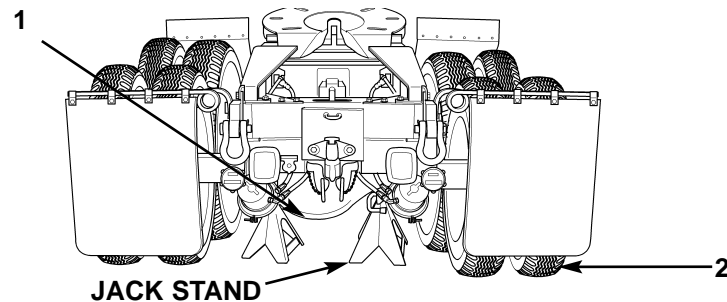

Figure 2. Jacking Rear-Rear Axle.
3. Position suitable floor jack under center of axle housing on rear-rear axle (figure 2, item 1), and raise rear-rear axle (figure 2, item 1) until tires (figure 2, item 2) are approximately 1 in. (25.4 mm) off ground.
4. Position jack stand under axle housing at each side of rear-rear axle (figure 2, item 1) and lower rear-rear axle (figure 2, item 1) making sure tires are still off ground when axle is fully supported on jack stands. Remove floor jack from under truck.